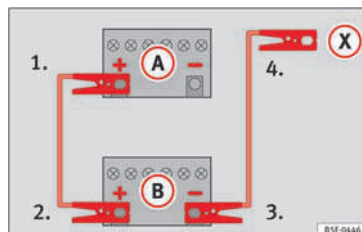

Fig. 72 Diagram of connections for vehicles without Start-Stop system.
2. Connect one end of the *red* jump lead to the positive (+) terminal of the vehicle with the flat battery (A) » Fig. 72.
3. Connect the other end of the *red* jump lead to the positive terminal (+) in the vehicle providing assistance (B).
4. *For vehicles without Start-Stop system:* connect one end of the *black* jump lead to the negative terminal (-) of the vehicle providing the current (B) » Fig. 72.